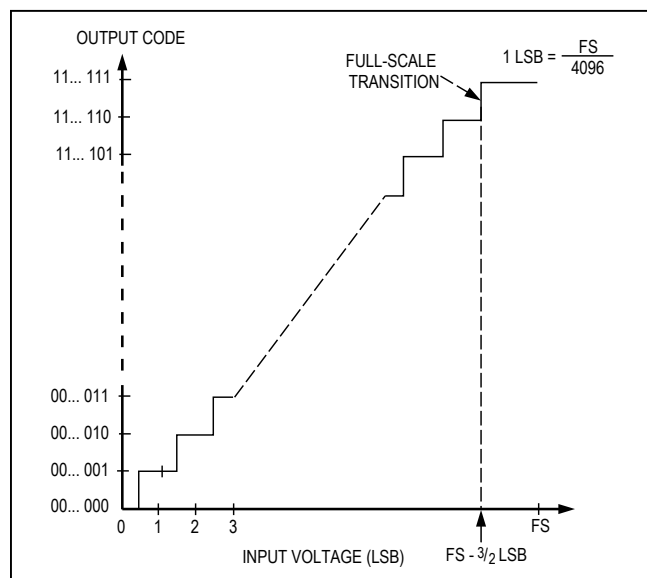

Figure 13a. Unipolar Transfer Function
Output data coding for the MAX127/MAX128 is binary in unipolar mode with $1 \text{ LSB} = (\text{FS}/4096)$ and two's complement binary in bipolar mode with $1 \text{ LSB} = [(2 \times |\text{FS}|)/4096]$. Code transitions occur halfway between successive-integer LSB values. Figures 13a and 13b show the input/output (I/O) transfer functions for unipolar and bipolar operations, respectively. For full-scale (FS) values, refer to Table 3.